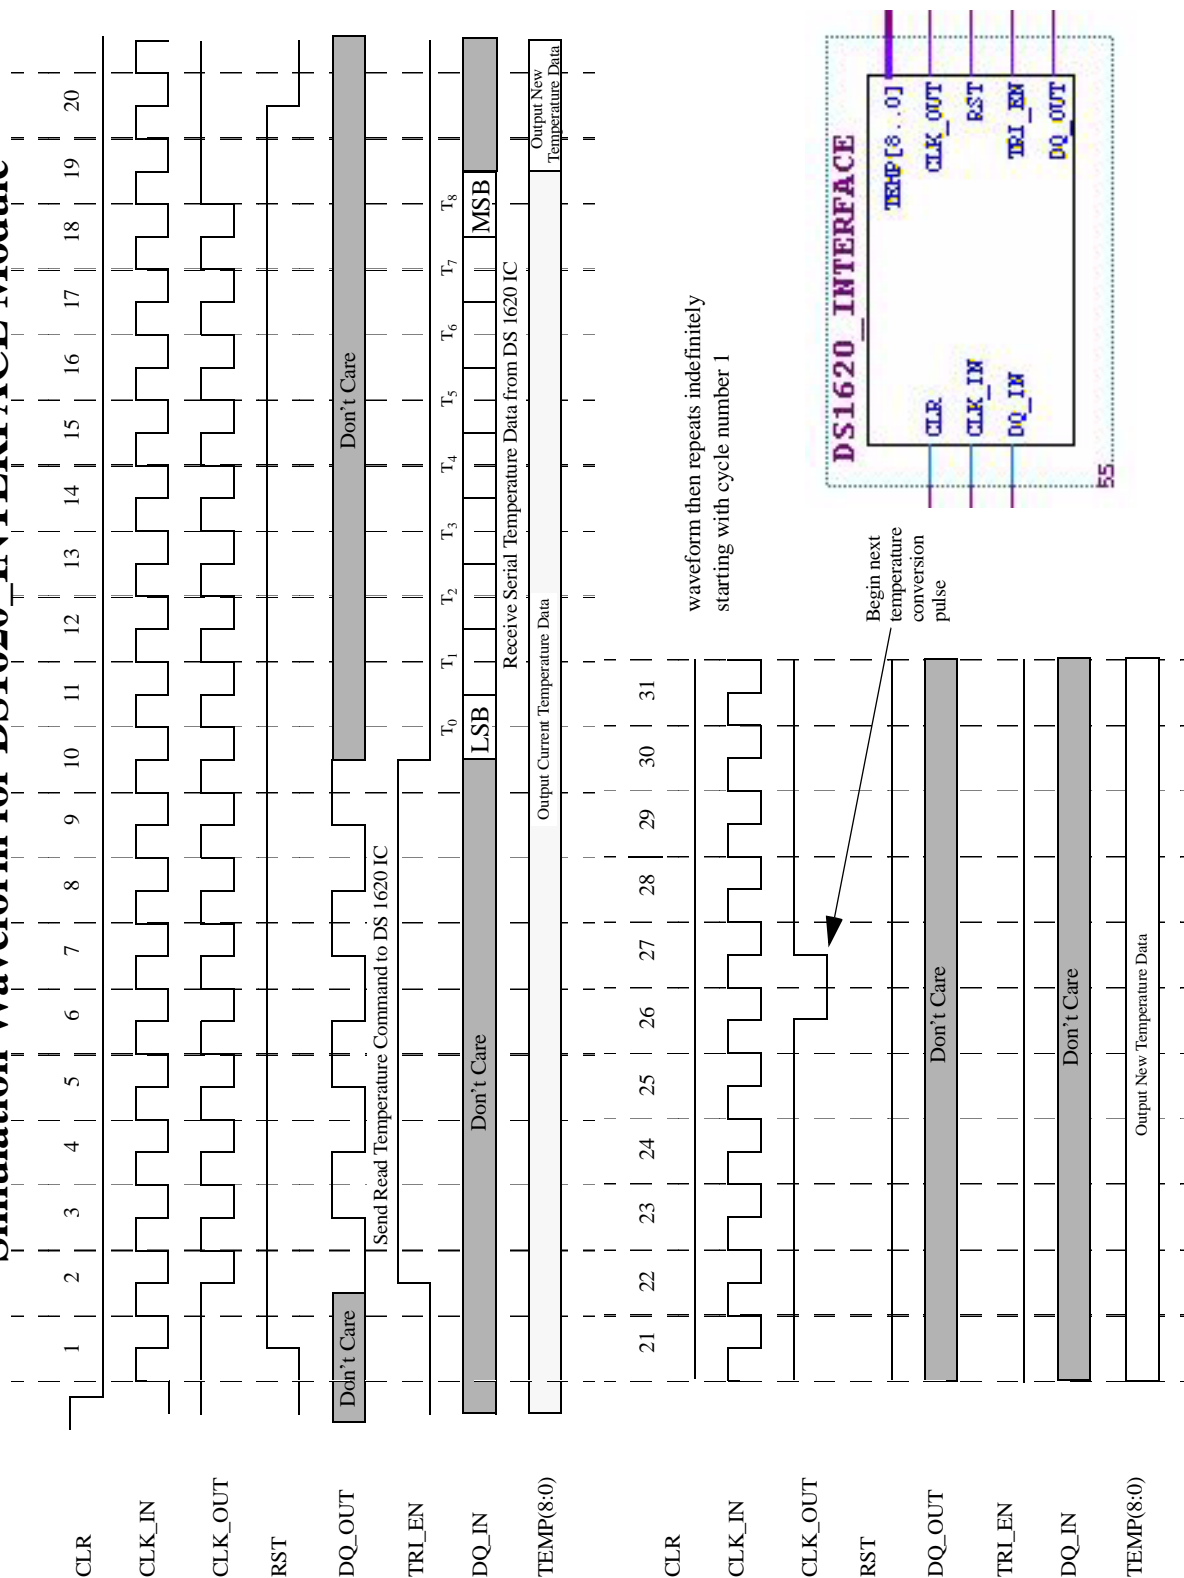

Figure 2. Waveform to be Generated by the DS1620_INTERFACE Module
During his last preliminary design review, before he was laid off, the engineer that preceded you proposed that the DS 1620 IC be run in thermostat mode with the interface logic being designed so it would periodically strobe the CLK/CONV pin of the DS 1620 to cause it to perform continuous temperature measurements and conversions. The temperature would then be read by the interface logic from the DS 1620 using the so called “three wire” mode that is discussed in the DS 1620 Data Sheet (that is also posted on Canvas). In this mode, the DQ pin must first be driven in a serial manner by the interface circuitry that is being designed. Upon receiving the read temperature command, the direction of the DQ pin would then change and the DS 1620 would drive the DQ pin in a serial manner to output the 9 bit temperature reading. Then the process would be repeated in a continuous manner. The complete protocol for the three wire operation is described in detail in the DS 1620 data sheet but the previous design engineer was able to extract from this documentation a detailed timing diagram that related directly to the *DS1620_INTERFACE* element that was to be created. ***This timing diagram is shown in Figure 2. This waveform is composed of 31 cycles and begins after the first rising edge of the divided system clock after the CLR signal has gone low. It then repeats itself indefinitely. Your assignment is to create a Verilog HDL module that exactly replicates this timing and to demonstrate it using through RTL level ModelSim simulation. Important Note: the simulation model must also be synthesizable in Quartus II as well as simulatable within the ModelSim environment.***
This project is already two months behind schedule and your supervisor has assigned you the task of completing the design. She has imposed a deadline of 04/6/15 for you to develop a complete simulation of at least one complete 31 cycle waveform that match the one shown in Figure 2. In your simulation you are to assume a 1 Mhz clock frequency and you are to provide at appropriate portion of the waveform the necessary 9-bit output that will come from the DS 1620 IC as shown in Figure 2. Remember, you need to complete this simulation during the specified time period because the next round of lay-offs has been rumored for next month and your plan to get rich quick in the video gaming market is not panning out as well as you expected.
- 2) the complete simulation of the *DS1620_INTERFACE* design to validate its operation under the same set of stimulus as in Figure 2.
The final simulation submission should include source Verilog HDL modeling code, and a write up that includes your simulation stimulus commands, and your resulting output waveform that is composed of all signals that are specified in Figure 2.